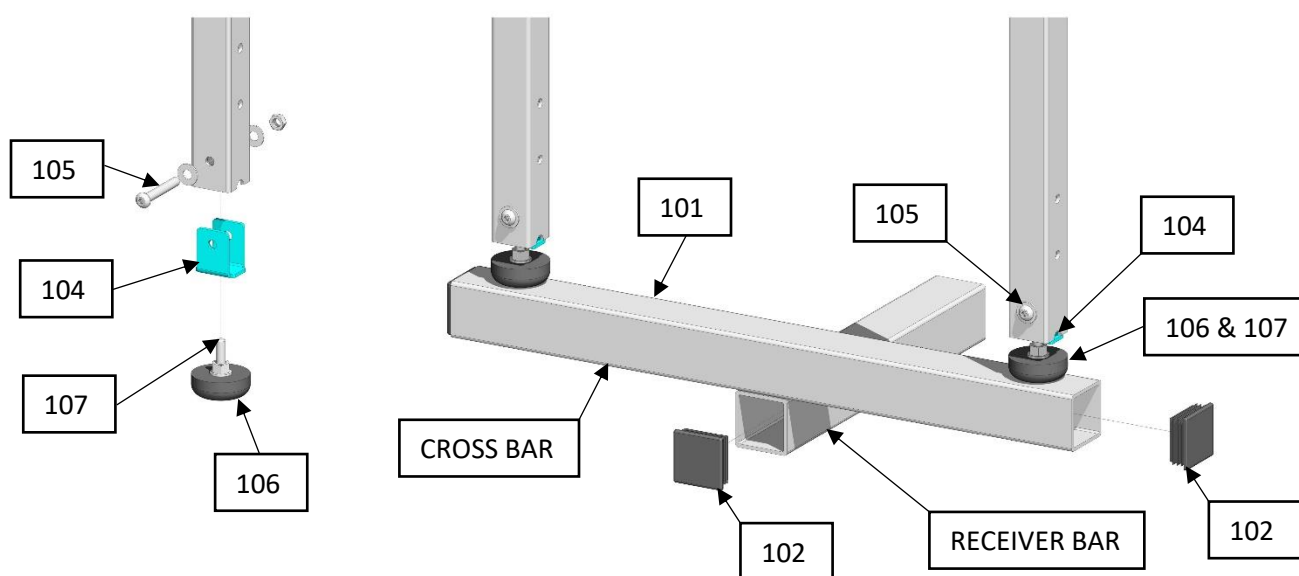

FIG. 1
LOAD HANDLER ASSESSORY INSTALLATION (FIG. 1)
STEP 3: INSTALL U-SERT BRACKET (ITEM 104) INTO THE BOTTOM OF THE RUCRAK VERTICAL TUBES AS SHOWN IN FIG. 1. SECURE WITH 5/16" HARDWARE (ITEM 105).